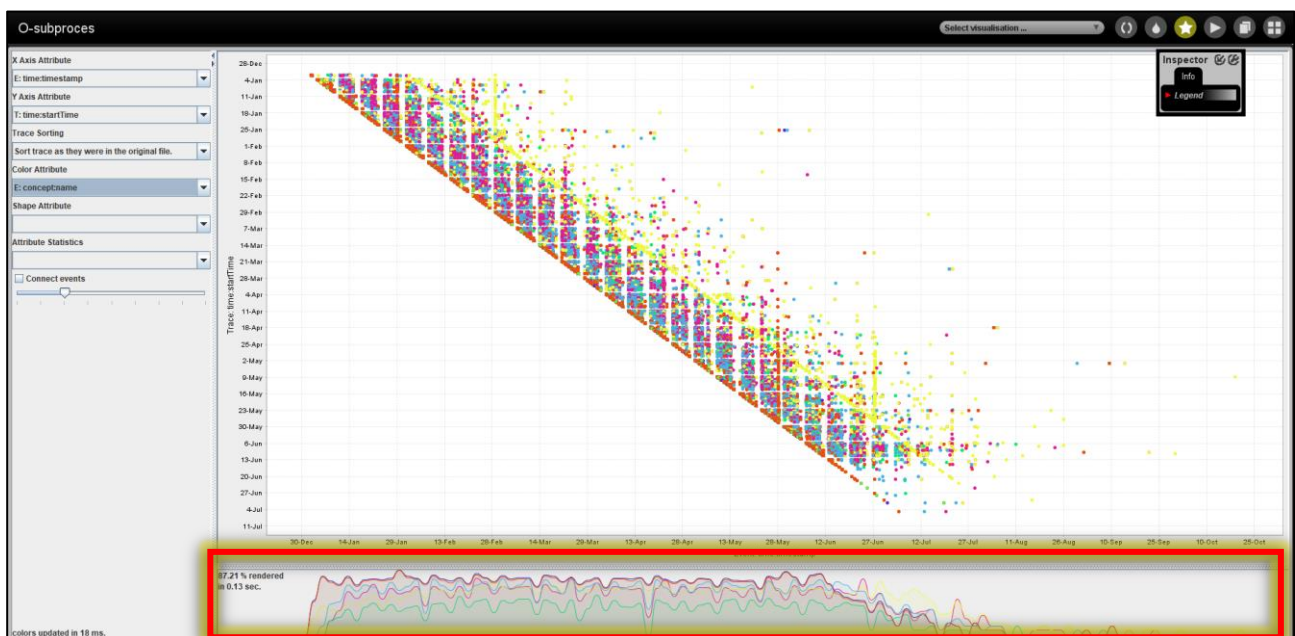

Figure 3. Dotted chart with event timestamp (x-axis) and trace start name (y-axis)
Changing the y-axis to *T:time:startTime*, dots are located on the y-axis according to the timestamp of the first event in the trace. We can also colour the dots according to the event's concept name (*E:conceptname*) to obtain Figure 3.
Area ① in Figure 3, in any configuration, shows the distribution of events over the x-axis. All the events associated with dots with the same value for the x coordinate are summed up and visualized in the distribution below.